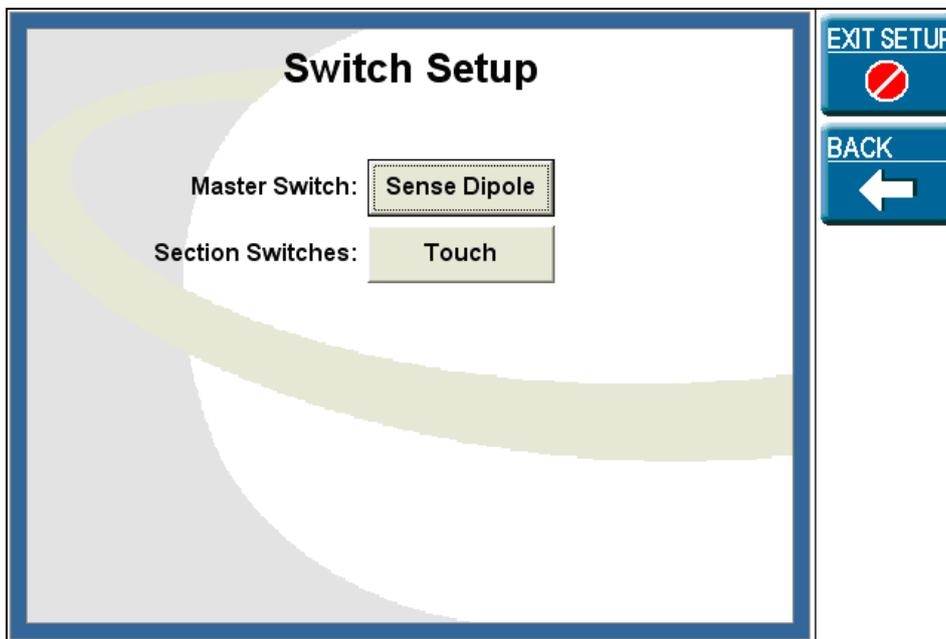

Figure 3-4: Switch Setup Window
- 3) Set Master Switch to **SENSE DIPOLE** as shown in Figure 3-4.